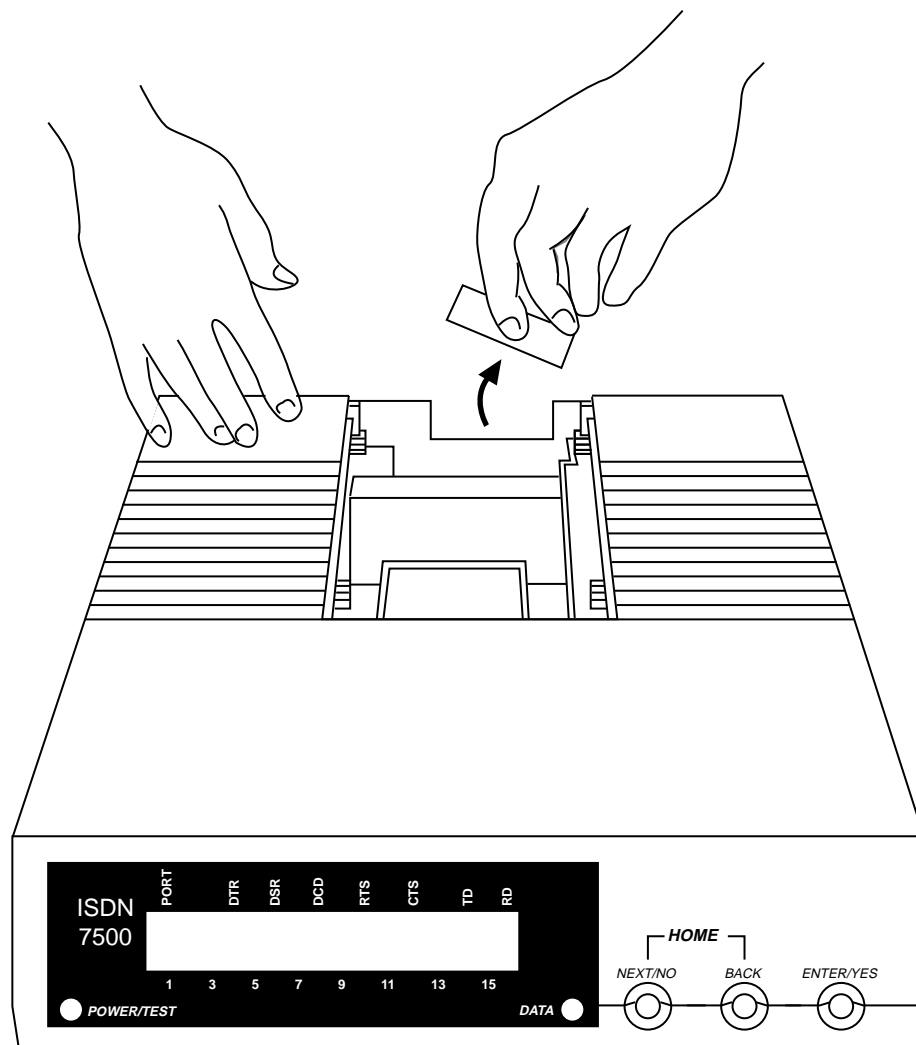

FIGURE 8-4. Removing the Protective Cover
4. Remove the protective cover from the Port 2 slot as follows. See Figure 8-4.